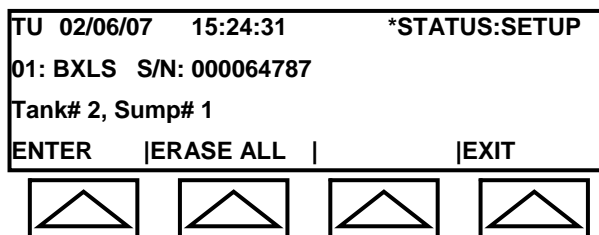

Fig. 4-9i: Edit Screen
- ◆ EDIT – displays the Editing Screen Figure 4-9i).
The screen will appear as in Figure 4-9i.